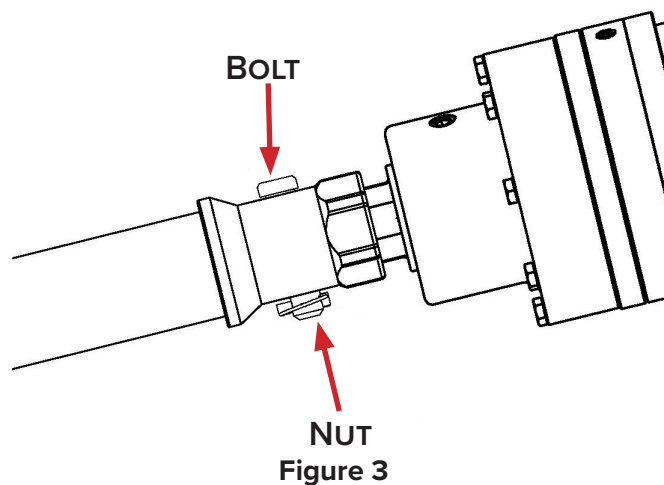

Figure 3
4. Insert the bolt through the auger bit/extension and through the output shaft. Tighten the nut per torque values on page 47. See Figure 3.